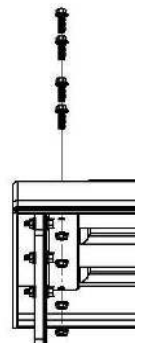

Figure 9
G. Drill four 5/16" holes through the fender using the holes in bracket PB5071 as a guide (Figure 9).